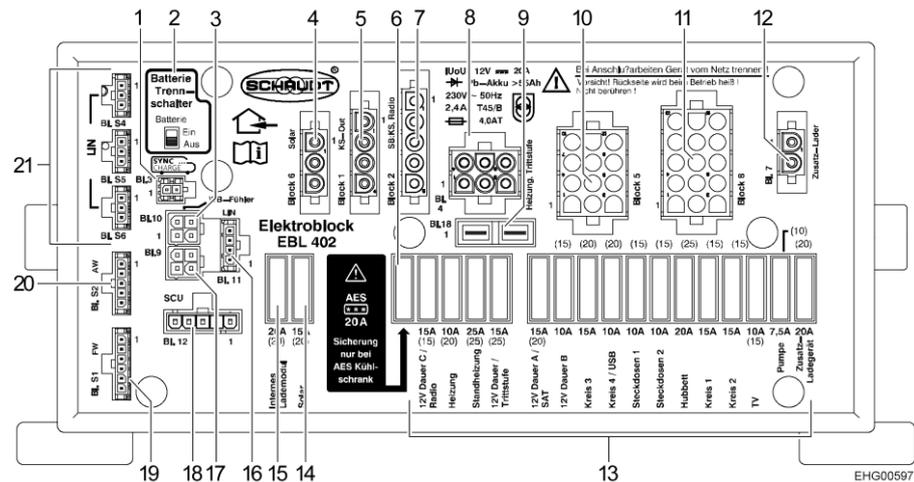

Fig. 131 Transformer/rectifier (EBL 402)
- Move the battery cut-off switch (Fig. 131,2) to the "Aus" (Off) position on the transformer/rectifier EBL 402.
- Move the battery cut-off switch (Fig. 131,2) to the "Ein" (On) position on the transformer/rectifier EBL 402.